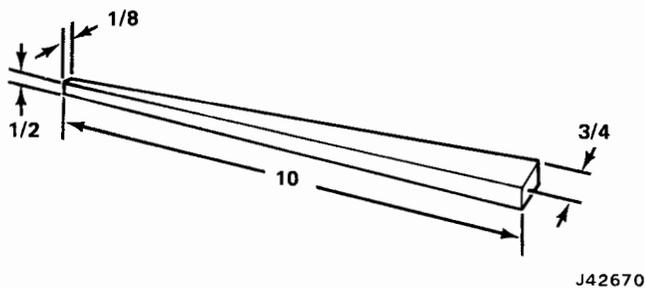
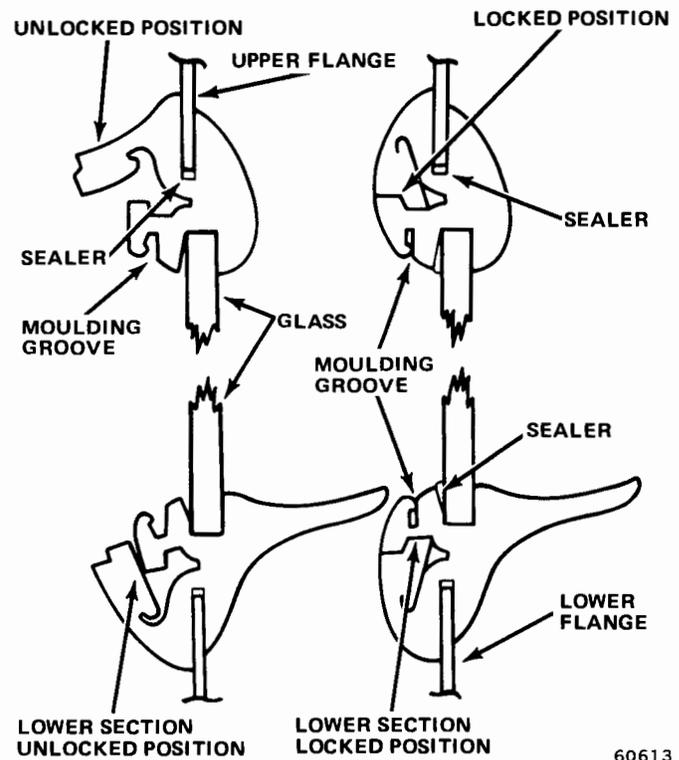
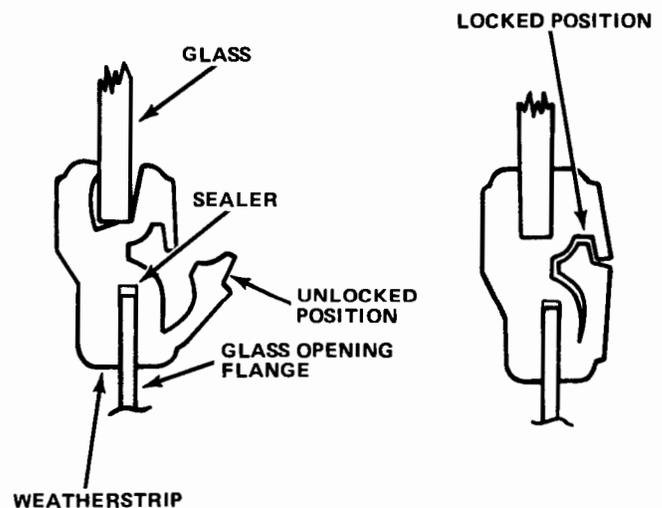

Fig. 17-1 Wooden Wand Dimensions (Inches)
Fig. 17-2 Windshield Weatherstrip Cross Section—
Fig. 17-3 Windshield Weatherstrip Cross Section
- (1) Cover adjoining painted surfaces to protect finish.
- (2) Remove windshield wiper arms using a wide blade screwdriver.
- (3) On vehicles with stainless steel mouldings.
- (4) Slide center moulding clip to left or right and remove bottom mouldings. This will expose the locking type weatherstrip.
- (5) Use a wedge-shaped fiber or hardwood stick or wand as shown in figure 17-1 to unlock the weatherstrip as shown in figures 17-2 and 17-3. The locking type weatherstrip without mouldings is shown in figure 17-3.
(1) Clean old sealer from windshield opening flange.
(2) If removed weatherstrip is to be reused, be sure glass cavity and flange cavity are clean.
(3) Use 3M Auto Bedding and Glazing Compound or equivalent and apply a 1/16-inch bead of sealer completely around weatherstrip in flange cavity as shown in figure 17-2.
(4) Install weatherstrip on windshield opening flange.
(5) Apply a liberal amount of liquid soap solution in glass cavity of the weatherstrip.
(6) With two men working on the outside of the vehicle, work windshield into upper glass cavity and into each side. Position wooden wand under bottom of glass and lift windshield up and into lower glass cavity. Check for equal side clearances.
(7) Use wooden wand to lock weatherstrip as shown in locked position (fig. 17-2 and 17-3).
(8) Use 3M Windshield Sealer or equivalent and apply sealer between the weatherstrip and glass on outside of glass around entire perimeter (fig. 17-2).